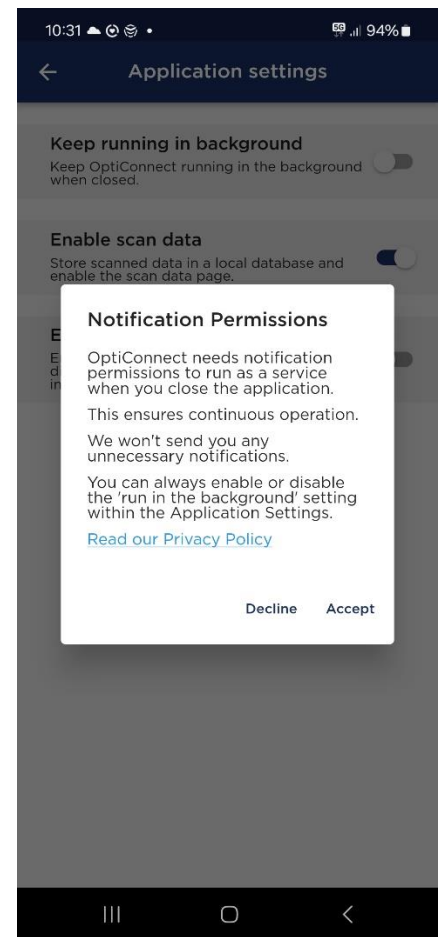

Figure 4-3: The Notification Permissions dialog when enabling *Keep running in background* (Android only).
Notification Permissions: For this functionality to work on Android, OptiConnect requires notification permissions (see Figure 4-3). These permissions enable the application to run as a *foreground service*, which keeps it alive and running in the background on the device. The foreground service displays a persistent notification to ensure the service is not killed by the system.
3. When prompted, grant the necessary notification permissions (see Figure 4-3).